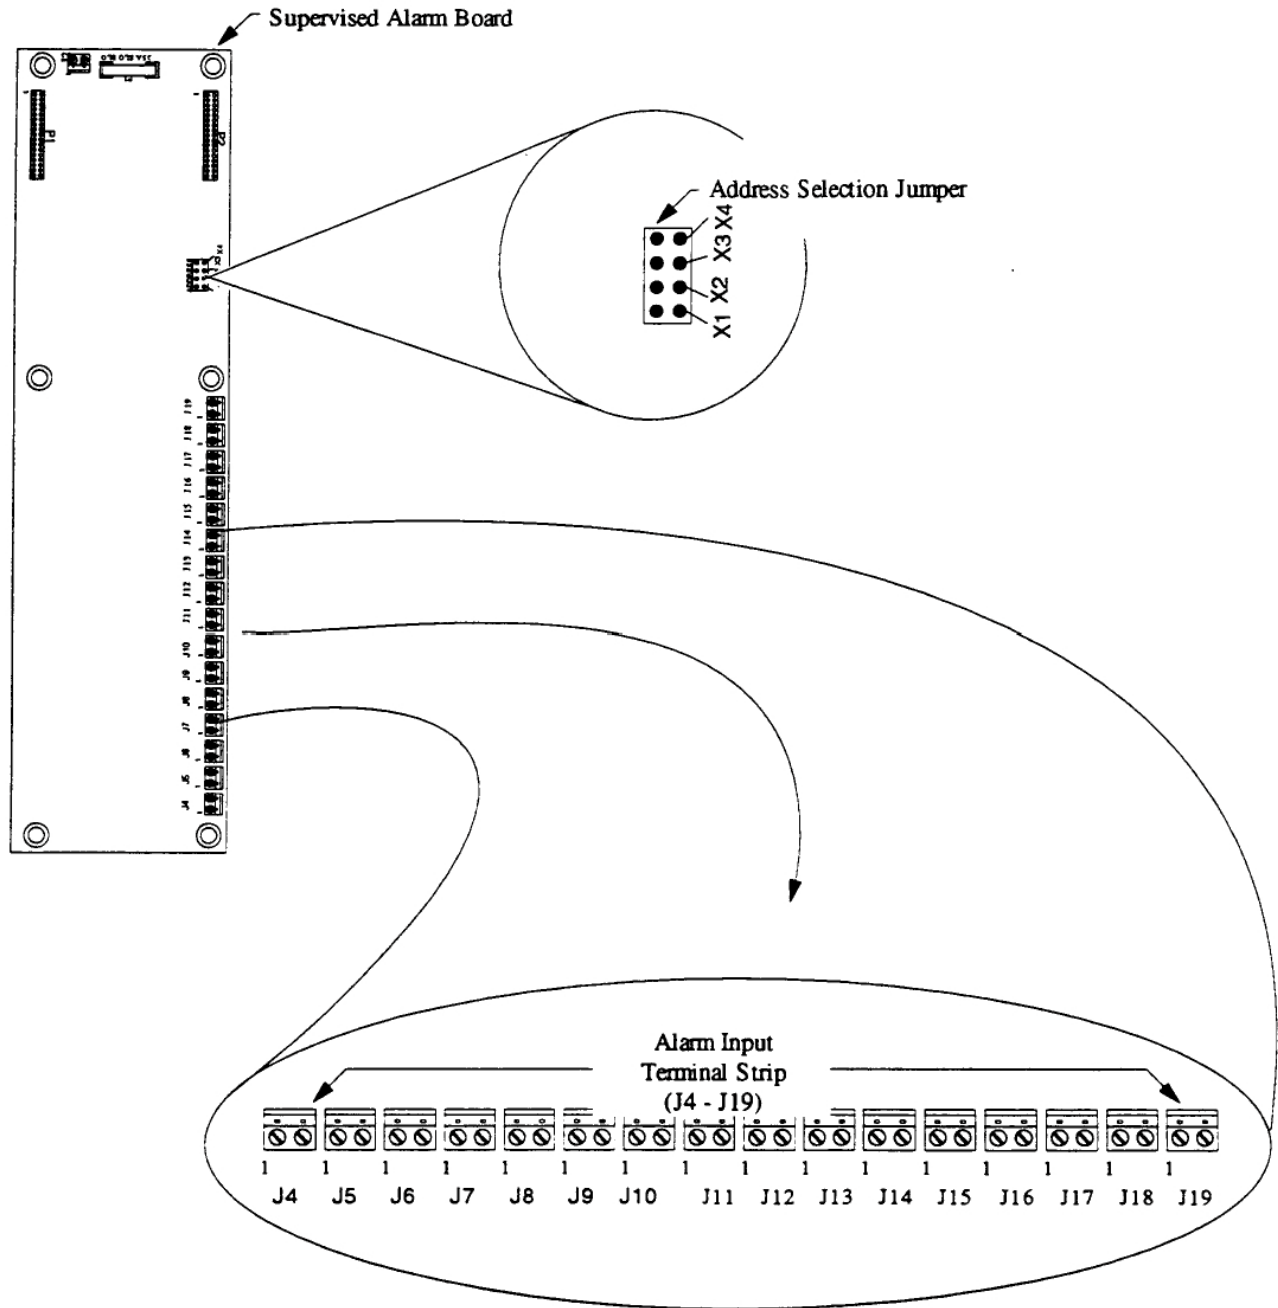

Figure 40 - Supervised Alarm Board Alarm Input Connections and Address Settings
The Supervised Alarm board provides terminal strips for 16 alarm inputs. The alarm inputs are connected to the Supervised Alarm board using connectors J4 through J19 (see Figure 40).
The Supervised Alarm board has an on-board Address Selection jumper that identifies the board to the Turbo Superterm (see Figure 40).
- 2) Determine the location of the Expansion I/O board in the order, **from right to left**, that the Expansion I/O boards are mounted (see Figure 40).